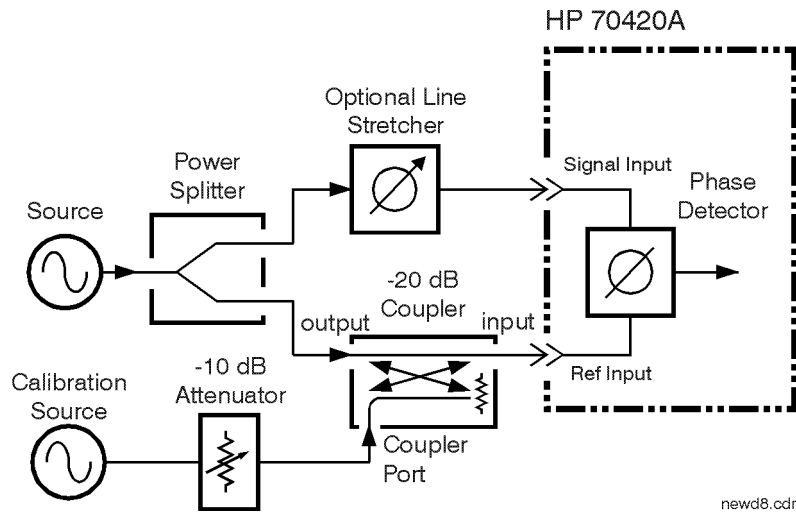

Figure 8-17 Carrier-to-spur Ratio of Modulated Signal
- 3 Measure the carrier-to-single-sided-spur ratio out of the coupler at the phase detector’s modulated port and the offset frequency with the RF spectrum analyzer (Figure 8-17). The RF calibration source should be adjusted such that the sidebands are between -30 and -60 dB below the carrier and the frequency offset of the spur between 10 Hz and 50 MHz.